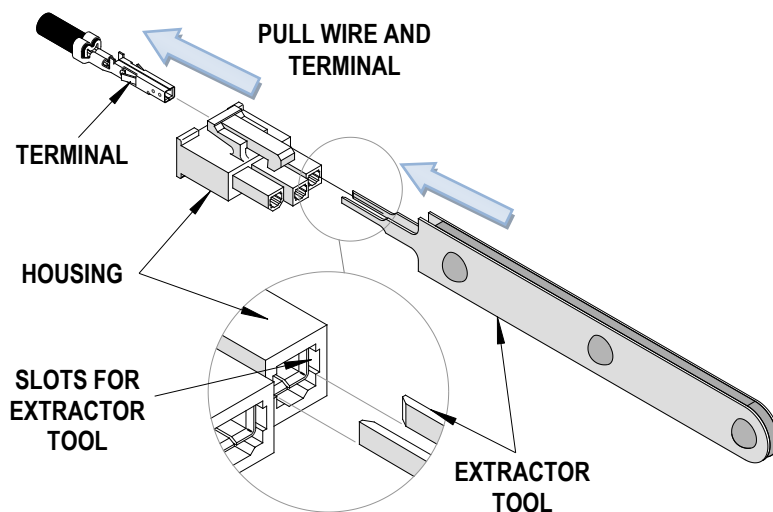

Figure 1
1. Insert the extractor tool into the housing as shown in Figure 1.